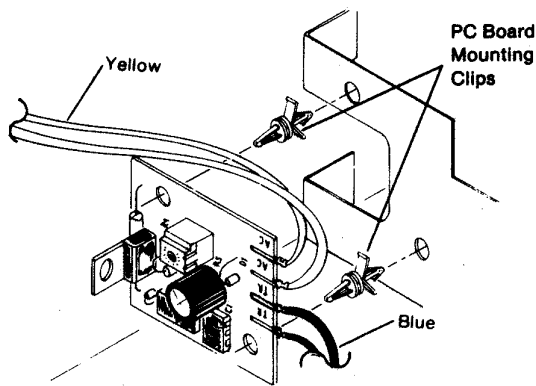
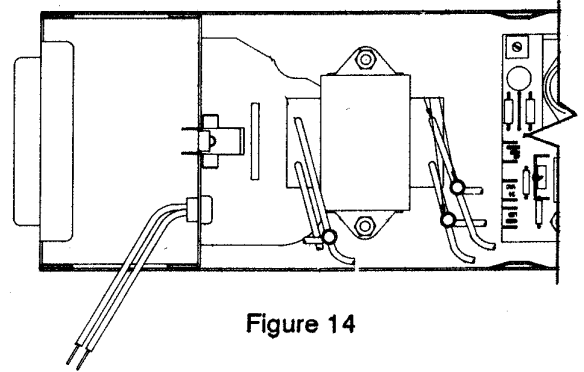

Figure 13
Figure 14
This electronic air cleaner has a **BUILT-IN AUTOMATIC AIR FLOW SENSOR**. The location of the air flow sensor is shown in Fig. 13.
2. Wire unit to 120 volt, 60 Hertz, 1 phase (or 240 volt, 50/60 Hertz, 1 phase) supply. A field wiring compartment (with knock out holes) is located at the rear of the power pack assembly (Fig. 14). The electronic air flow sensor will automatically cycle your Electronic Air Cleaner with the blower system. The sensor is activated when the fan is on and air flow is present in the duct. It is pre-set at the factory and needs no adjustment (Fig. 13). Adjustment of the air flow sensor voids the warranty.
6. Remove the two (2) blue wires from the air flow sensor by carefully sliding the connectors from the board (See Figure 13).
11. Remove the two (2) yellow wires from the air flow sensor (See Fig. 13).
13. Double back the end of one (1) wire onto itself approximately 2" and tape with electrical tape.
3. Remove the two (2) blue leads from the air flow sensor. Refer to Figure 13. Connect the ends of the wires together to bypass the air flow sensor during the next service check.